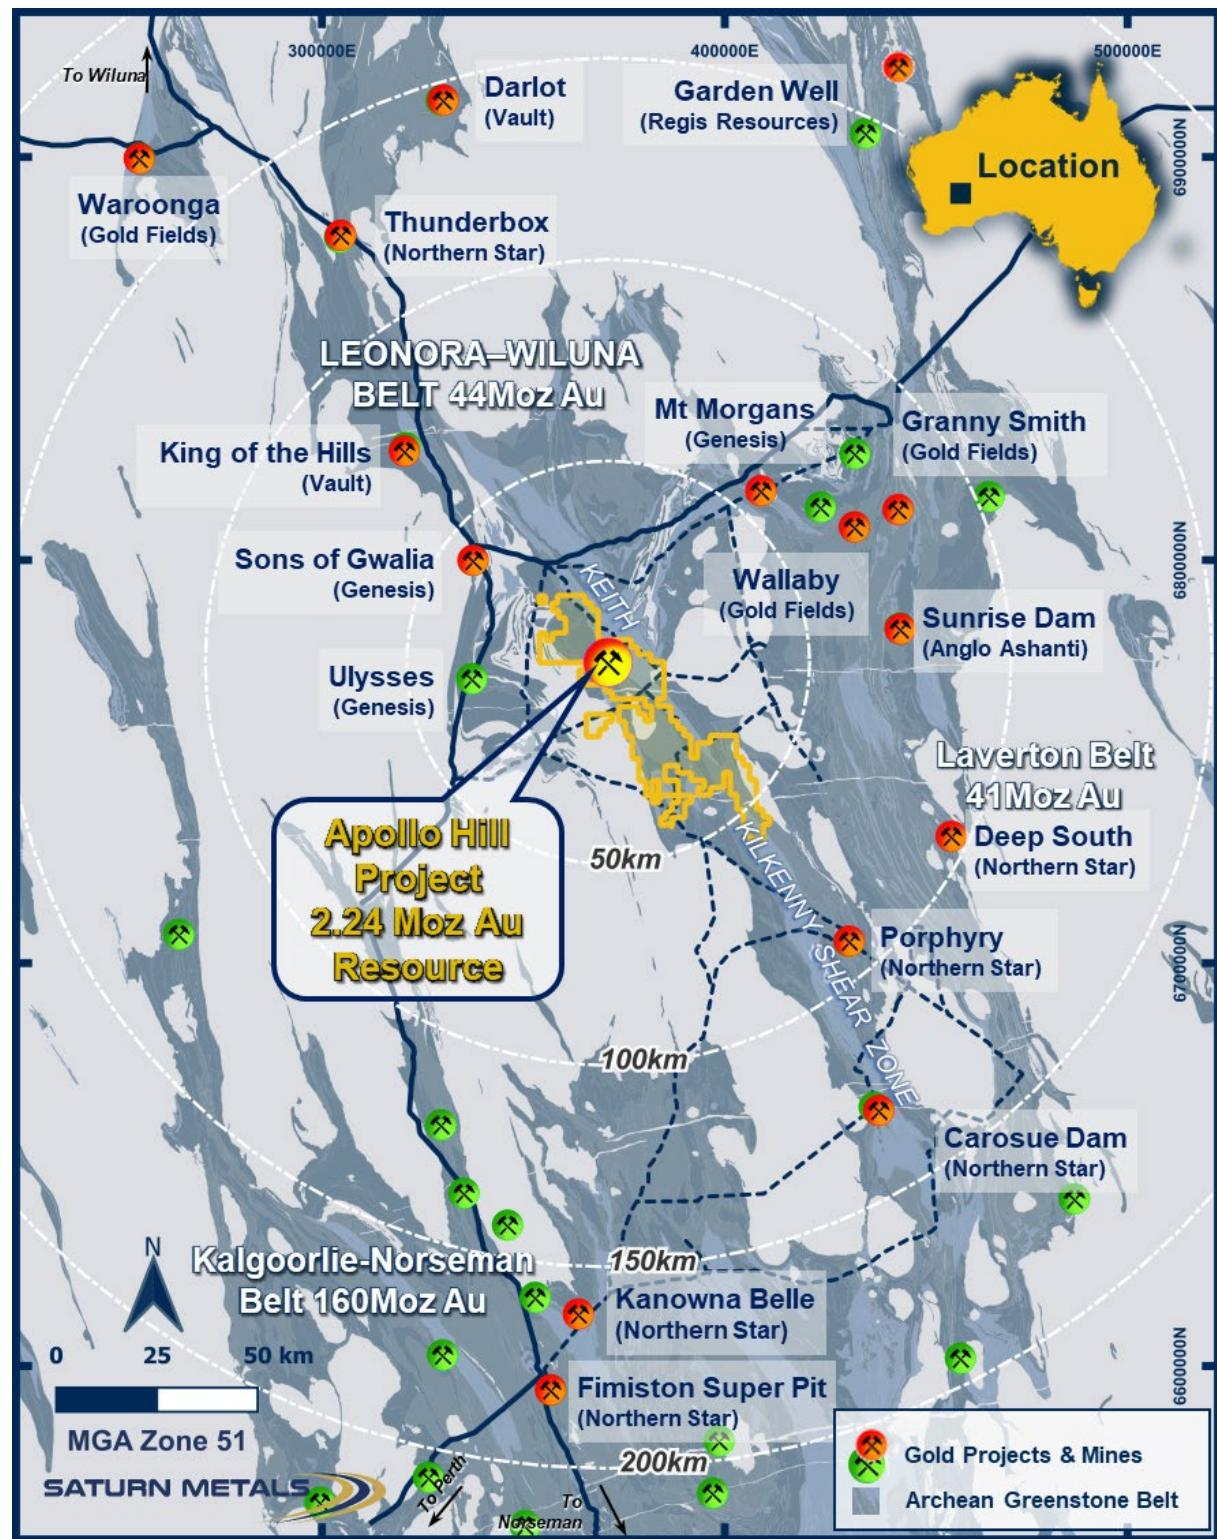

Figure 2 – Apollo Hill location, Saturn Metals' tenements and surrounding gold deposits, gold endowment and infrastructure.
This program represents the next step in Saturn’s strategy to upgrade the 2.24Moz Apollo Hill Mineral Resource¹ ahead of the DFS. While the initial phase of drilling is prioritising shallower mineralisation along the Iris, Ra and Tefnut trend by following up previously reported intersections such as 18m @ 2.14g/t Au in AHRC1226 (Figure 2), drilling will also follow up on promising exploration intersections to the north of Apollo Hill, including:
- 9m @ 1.48g/t Au from 21m (AHRC0821) (Figure 2).
In-fill drilling is also underway in the main deposit area to support Mineral Resource category upgrades and Ore Reserve expansion (Figure 2).
Figure 2 – Plan view showing the planned and in-progress drill program (black squares), a selection of historical follow-up targets intercepts (yellow call-outs), and historical drill holes with >1 gram-meter intercepts (coloured circles).
Apollo Hill (29.15°S and 121.68°E) is located approximately 60km south-east of Leonora in the heart of WA's goldfields region (Figure 2). The deposit and the Apollo Hill project are 100% owned by Saturn and are surrounded by good infrastructure and several significant gold deposits. The Apollo Hill Project has the potential to become a large tonnage, simple metallurgy, low strip open pit mining operation.